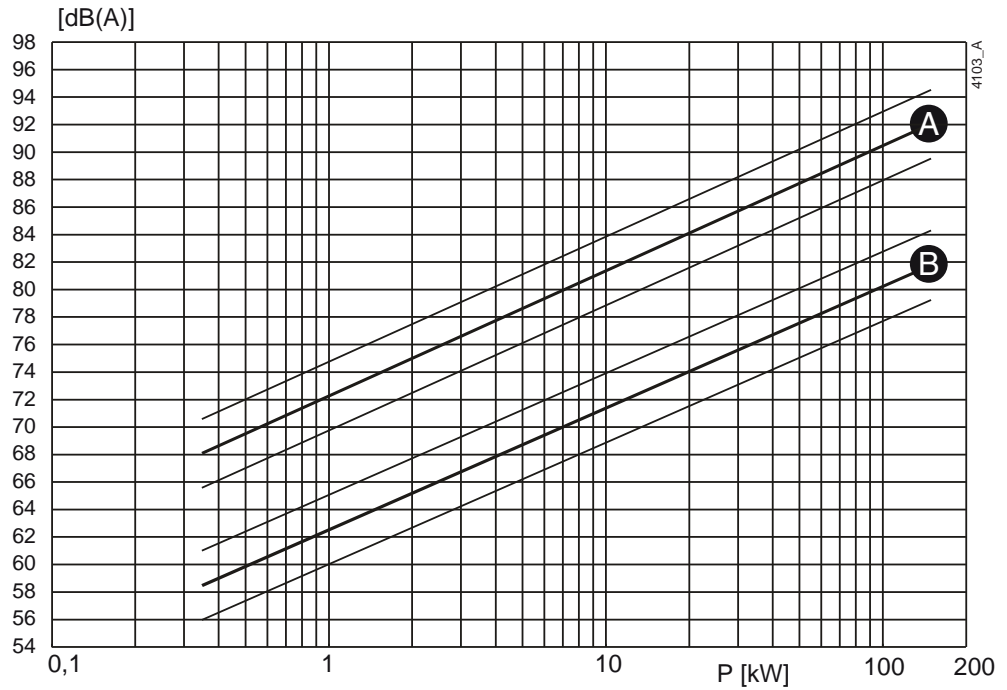
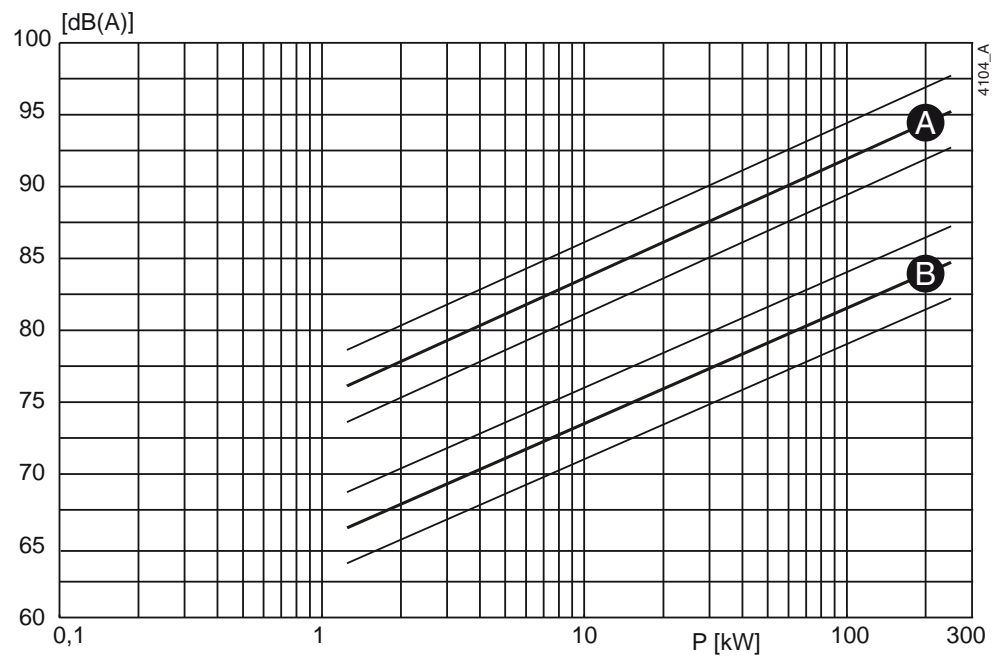

Figure 32: Noise level as function of pump power [kW] at 1450 min⁻¹
Figure 33: Noise level as function of pump power [kW] at 2900 min⁻¹
- 1 Determine the noise level (L1) of the pump, see figure 32 or figure 33.